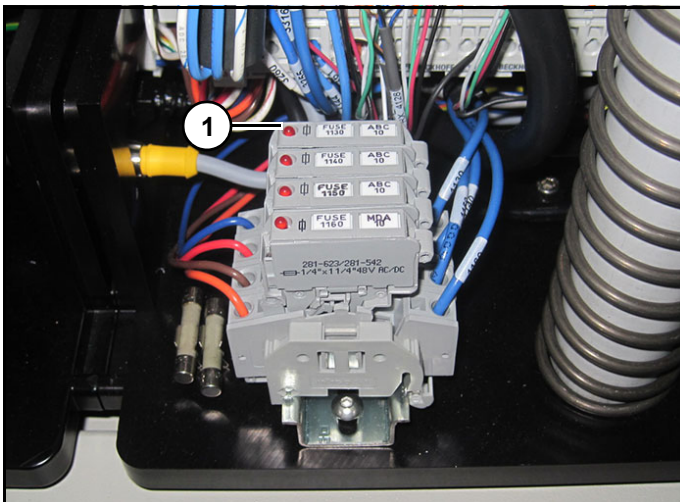

Figure 5
3. Check Bus B, Bus C, and Bus D fuses, light (1) (Figure 5) will be red on a blown fuse.